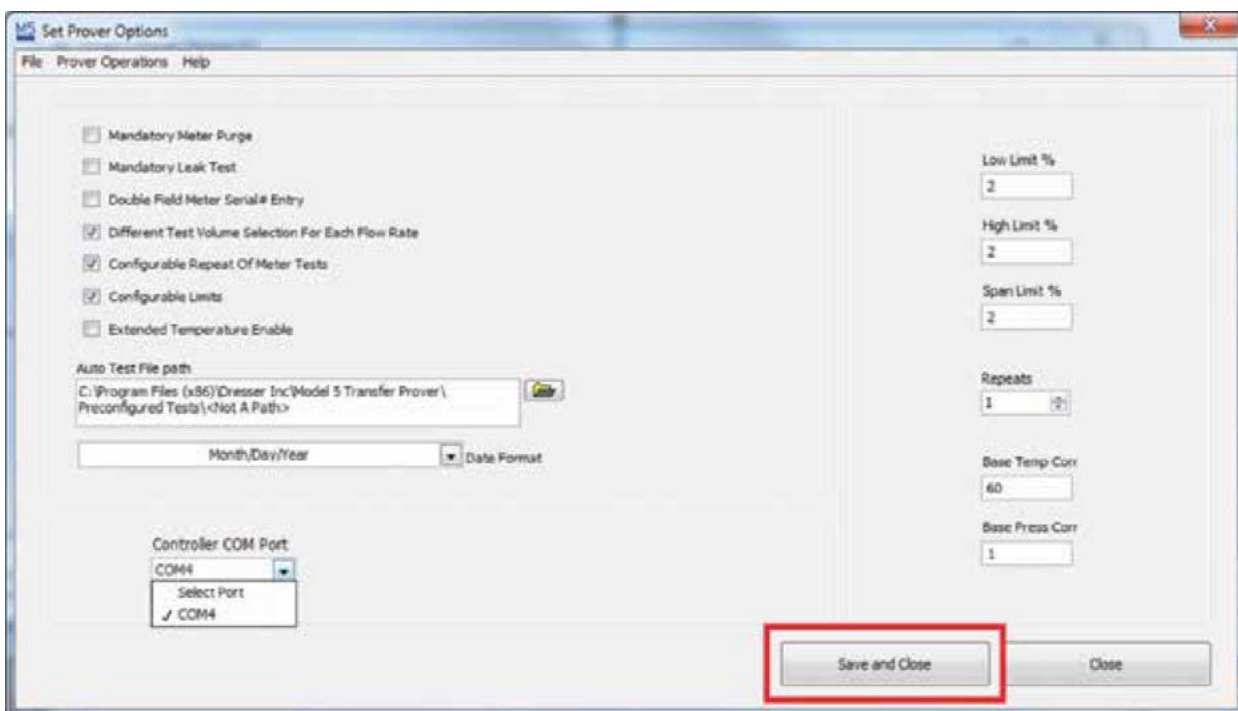

Figure 25: Save and Close
4. When complete, click “Save and Close” as shown in Figure 25.